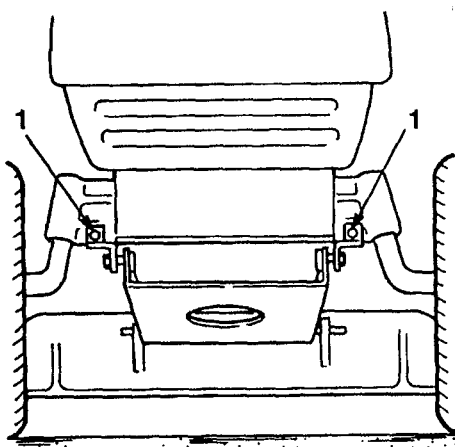

Figure 43
5. Install the mower pivot mount brackets to the front axle with bolts and lock nuts (Fig. 43).